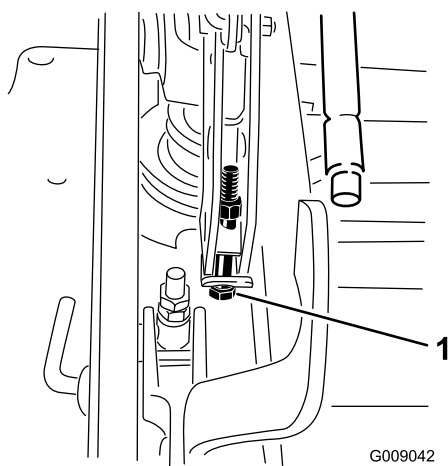

**Figure 88**
11. To adjust the single point system, loosen the two bolts at the bottom of the height-of-cut plate. Refer to Figure 88.
13. Tighten the two bolts at the bottom of the height of cut plate (Figure 88). Torque to 37-45 N-m (27-33 ft-lb).